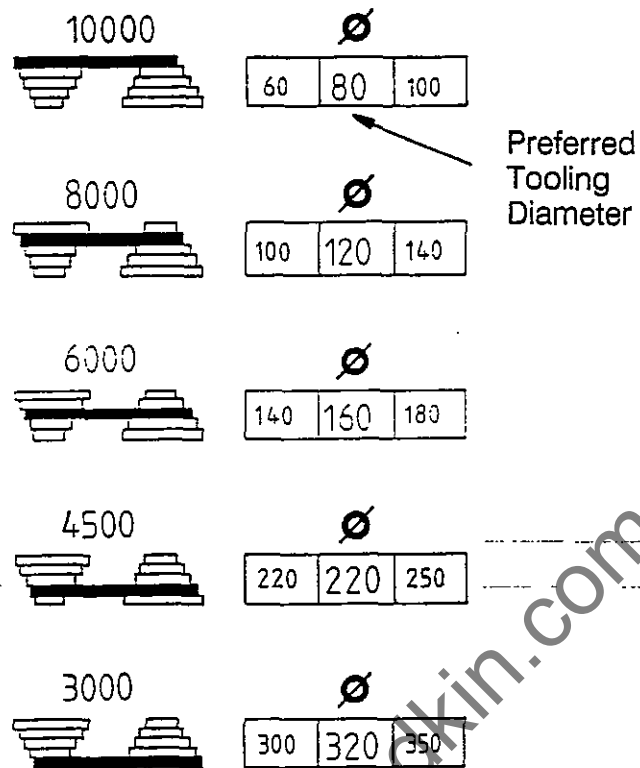
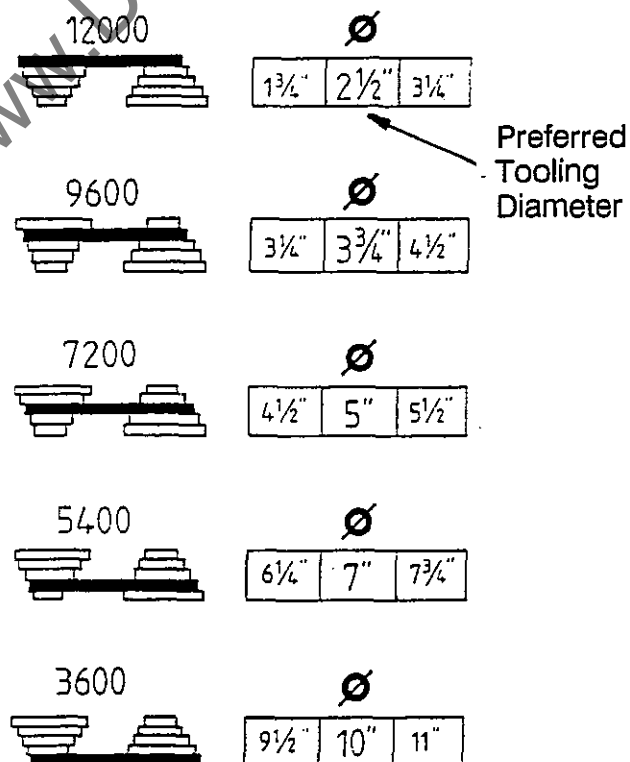

FIG. 13
FIG. 14
- e) Position drive belt "B" on pulleys for required spindle speed. See pulley diagrams FIG.13 (or FIG.14 for USA and Canada) for spindle speeds.